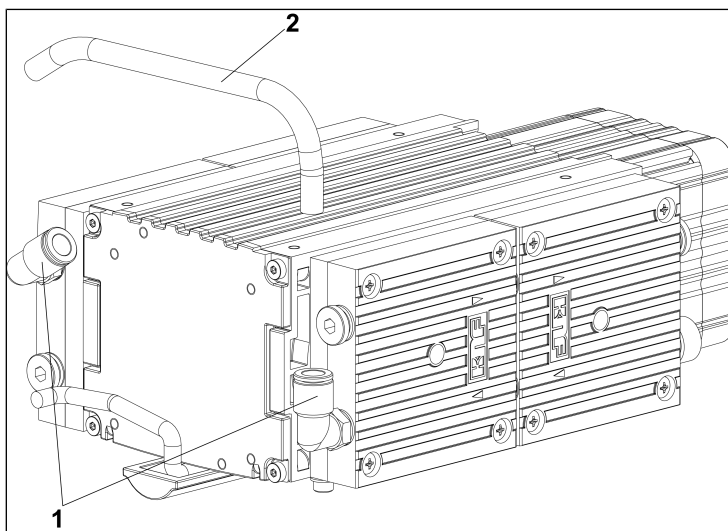

*Fig. 6: Removing the pump housing*
1. Loosen the screws (1/Fig. 6, 3, 5 and 7) and take off the pump housing parts (2/Fig. 6, 4, 6 and 8).
1. Mount the pump housing parts (**2/**Fig. 6, **4, 6** and **8**) on the pump and tighten screws (**1/**Fig. 6, **3, 5** and **7**).